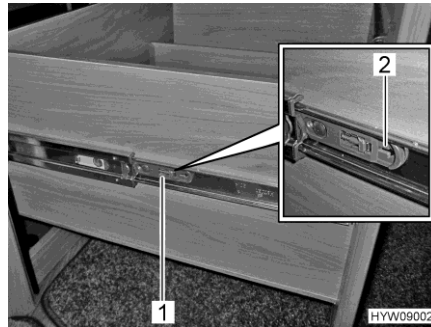

Fig. 135 Counter drawer
- On both sides of the counter drawer, pull the tongue (Fig. 135,1) in the direction of the arrow (Fig. 135,2). The counter drawer can then be pulled out beyond its stop.